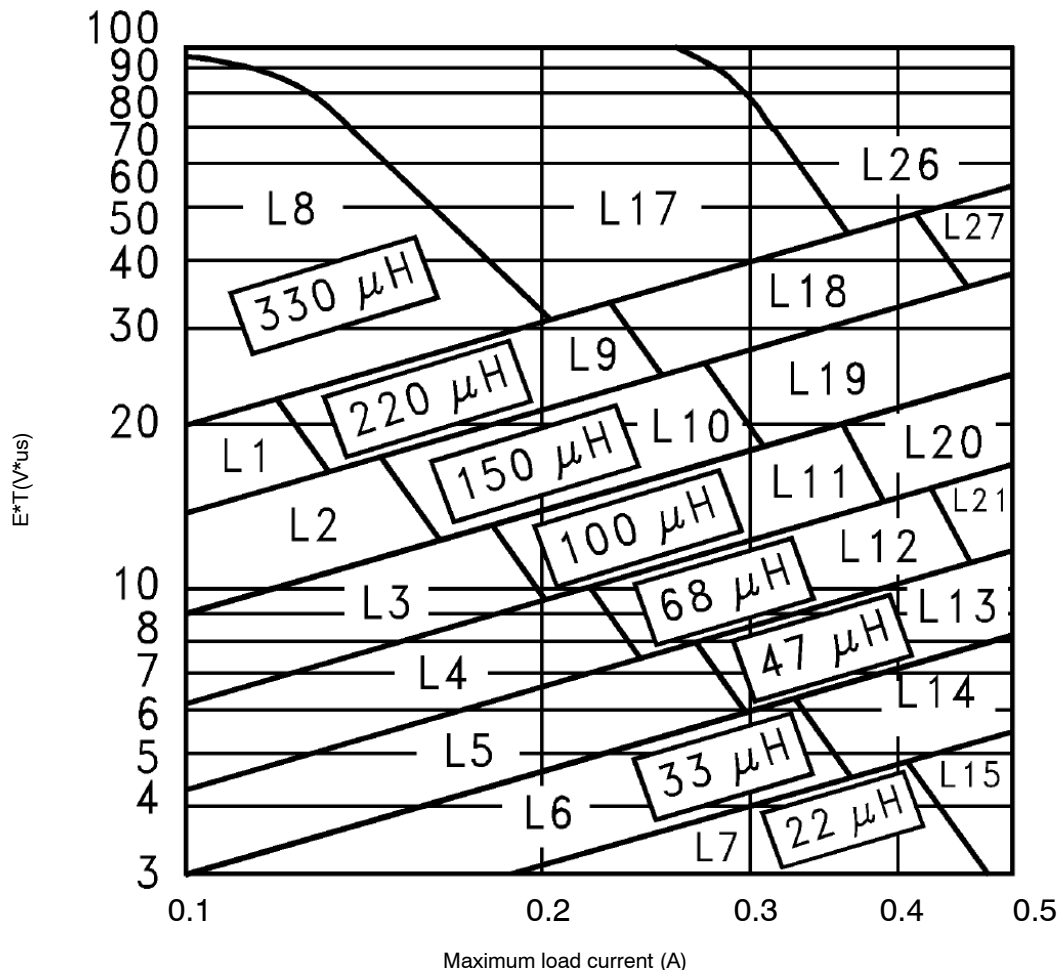

Figure 19. Inductor Value Selection Guides (For Continuous Mode Operation)
<p>4. Inductor Selection (L1)</p> <p>A. Use the following formula to calculate the inductor Volt x microsecond [V x μs] constant:</p> $E \times T = (V_{IN} - V_{OUT} - V_{SAT}) \times \frac{V_{OUT} + V_D}{V_{IN} - V_{SAT} + V_D} \times \frac{1000}{150 \text{ kHz}} (V \times \mu\text{s})$ <p>B. Match the calculated E x T value with the corresponding number on the vertical axis of the Inductor Value Selection Guide shown in Figure 19. This E x T constant is a measure of the energy handling capability of an inductor and is dependent upon the type of core, the core area, the number of turns, and the duty cycle.</p> <p>C. Next step is to identify the inductance region intersected by the E x T value and the maximum load current value on the horizontal axis shown in Figure 19.</p> <p>D. Select an appropriate inductor from Table 3. The inductor chosen must be rated for a switching frequency of 150 kHz and for a current rating of $1.15 \times I_{Load}$. The inductor current rating can also be determined by calculating the inductor peak current:</p> $I_{p(max)} = I_{Load(max)} + \frac{(V_{in} - V_{out}) t_{on}}{2L}$ <p>where t_{on} is the "on" time of the power switch and</p> $t_{on} = \frac{V_{out}}{V_{in}} \times \frac{1.0}{f_{osc}}$	<p>4. Inductor Selection (L1)</p> <p>A. Calculate E x T [V x μs] constant:</p> $E \times T = (12 - 5 - 1.0) \times \frac{5 + 0.5}{12 - 1 + 0.5} \times \frac{1000}{150 \text{ kHz}} (V \times \mu\text{s})$ $E \times T = (6) \times \frac{5.5}{11.5} \times 6.7 (V \times \mu\text{s})$ <p>B. E x T = 19.2 [V x μs]</p> <p>C. $I_{Load(max)} = 0.5 \text{ A}$ Inductance Region = L20</p> <p>D. Proper inductor value = 100 μH Choose the inductor from Table 3.</p>
To simplify the inductor selection process, an inductor selection guide for the LM2594 regulator was added to this data sheet (Figure 19). This guide assumes that the regulator is operating in the continuous mode, and selects an inductor that will allow a peak-to-peak inductor ripple current to be a certain percentage of the maximum design load current. This percentage is allowed to change as different design load currents are selected. For light loads (less than approximately 300 mA) it may be desirable to operate the regulator in the discontinuous mode, because the inductor value and size can be kept relatively low. Consequently, the percentage of inductor peak-to-peak current increases. This discontinuous mode of operation is perfectly acceptable for this type of switching converter. Any buck regulator will be forced to enter discontinuous mode if the load current is light enough.